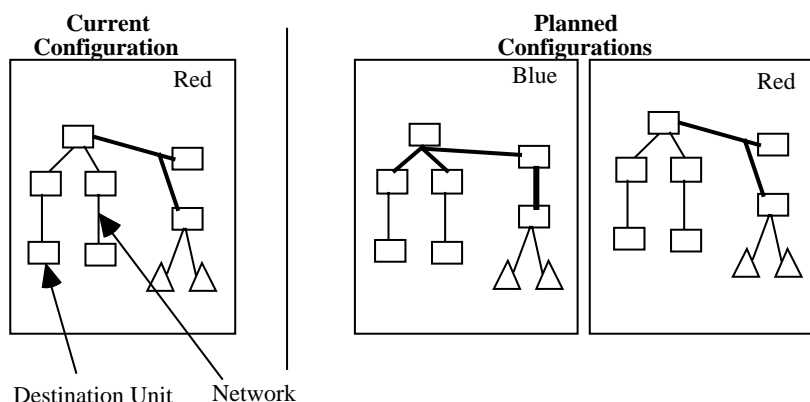

Figure 23. Many configurations may be developed. Only one can be Current.
In some non-AFATDS systems, only one communications plan can be stored. This is sometimes referred to as the Subscriber Table or the Routing Table. In AFATDS any number of communications plans can be stored, while only one of which can be active, see Figure 23. These stored plans are known as Planned Configurations, while the active one is known as the Current Configuration. Having multiple configurations (1) allows CONOPS planning in case an OPFAC were to be lost due to movement or destruction and (2) provides the capability for one OPFAC to create communication plans for a number of other OPFACs without actually using them itself.